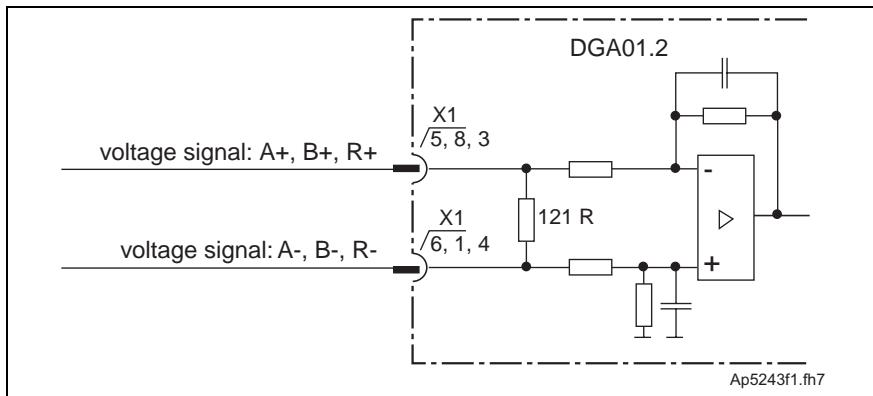

Fig. 23-5: Signal input circuit
**Recommended signal input circuit** see Fig. 23-5